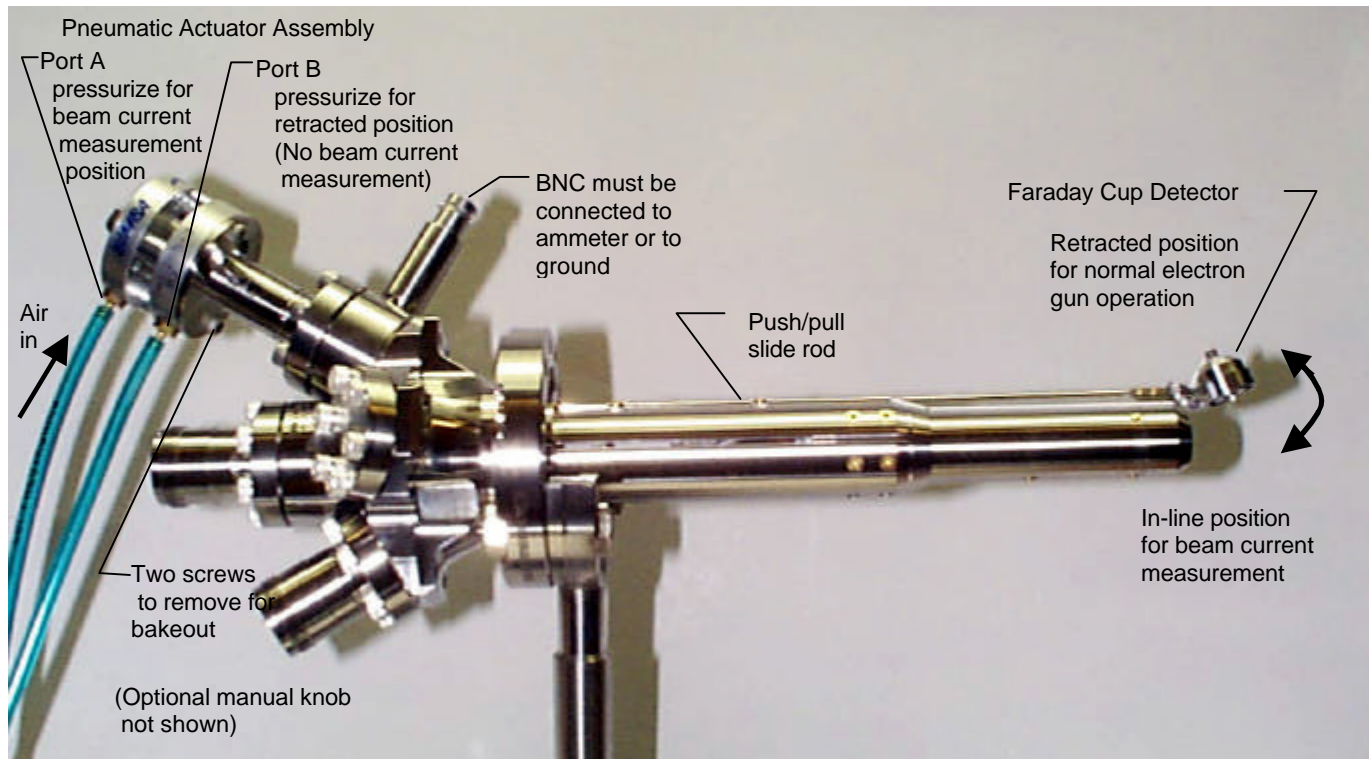

Fig. 4.8-1 Faraday Cup Assembly with Pneumatic Actuator
The Faraday cup assembly, mounted on the front end of the Electron Gun, is positioned by either a rotary feedthrough or a pneumatic actuator assembly, located on one of the 1½ CF (34 mm) flanges on the Flange Multiplexer. The two types of gun-mounted Faraday cup are shown below in Figures 4.8.1 and 4.8.2. The Faraday cup assembly is UHV compatible, and can be heated to 350°C; however, the optional pneumatic cylinder and its external plastic tubing should be removed for bakeout. Some guns which were purchased without a Faraday cup can be modified for the addition of a Faraday cup assembly at the factory.
- a. Apply air pressure to Port "A" and vent Port "B" to position the Faraday cup in the measuring position (in-line position); see Fig 4.8.1